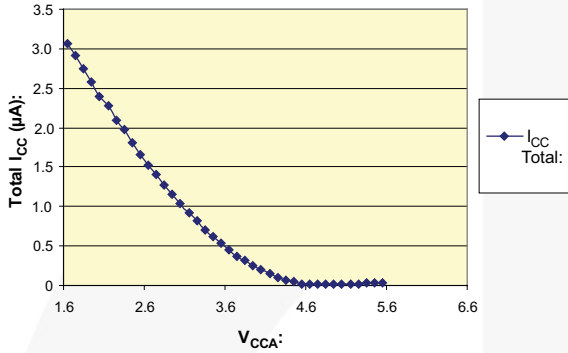
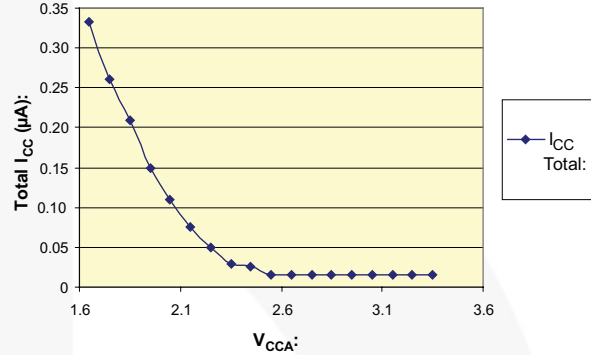

Figure 4. FXM2IC102 I_{CC} vs. V_{CCA} Sweep During no I²C Data Transactions (V_{CCB} = 5.5V. T_A = +25°C)
Figure 5. FXM2IC102 I_{CC} vs. V_{CCA} Sweep During no I²C Data Transactions (V_{CCB} = 3.3V. T_A = +25°C)
The FXM2IC102 typically consumes only 230nA during “no I²C data transactions” when V_{CCA} = 1.8V and V_{CCB} = 3.3V. See Figure 4 and Figure 5 for more details.
In a typical Mobile Internet Device (MID) application, I²C data transactions are idle the vast majority of the time. Therefore, it is critical that the I²C translator burns as little current as possible when no data transactions are passing across the I²C bus. Figure 4 and Figure 5 plot the typical FXM2IC102 I_{CC} performance across the entire voltage translation range during no I²C data
transactions. In Figure 4, V_{CCB} = 5.5V and in Figure 5, V_{CCB} = 3.3V.
For example, to translate from 1.8V to 3.3V (Figure 5), with no I²C data transactions present, the total I_{CC} of the FXM2IC102 is typically only 230nA. In effect, the FXM2IC102 virtually powers itself down when the I²C bus is idle.
3. Figure 4 depicts the typical I_{CC} of the FXM2IC102 when translating from 5.5V on the V_{CCB} supply to a range of 1.65V – 5.5V on the V_{CCA} supply.
4. Figure 5 depicts the typical I_{CC} of the FXM2IC102 when translating from 3.3V on the V_{CCB} supply to a range of 1.65V – 3.3V on the V_{CCA} supply.